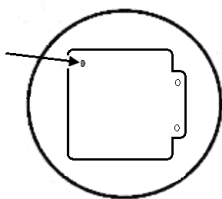

Fig. 2
- Unscrew the fastening screw securing the LED plate and open the LED plate (see Fig. 2)